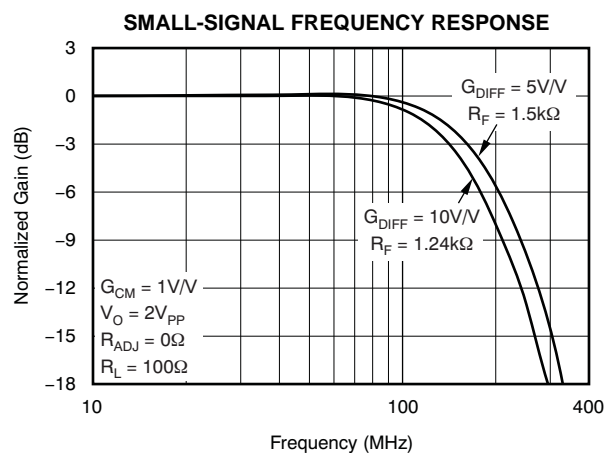

Figure 2.
(4) Test circuit is shown in Figure 2.